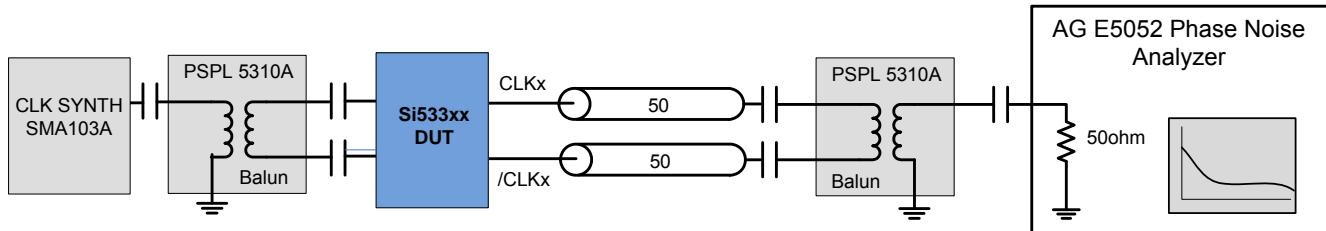

Figure 1. Differential Measurement Method Using a Balun
3. Measured differentially using a balun at the phase noise analyzer input. See Figure 1.
- Measured differentially using a balun at the phase noise analyzer input. See Figure 1.
Total Jitter (Diff): Combined source and clock buffer phase noise measured as a differential output to the phase noise analyzer and integrated from 12 kHz to 20 MHz. The differential measurement as shown in each figure is made using a balun. See Figure 1 on page 6.